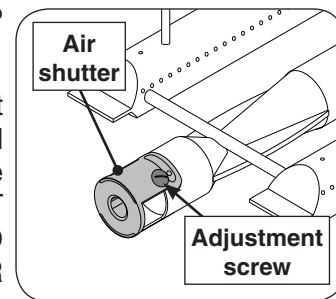

Fig. 36-2 Air shutter
3. Adjust the air shutter opening by loosening the adjustment screw with a screwdriver, then turn the air shutter to open or close it (see Fig. 36-2).